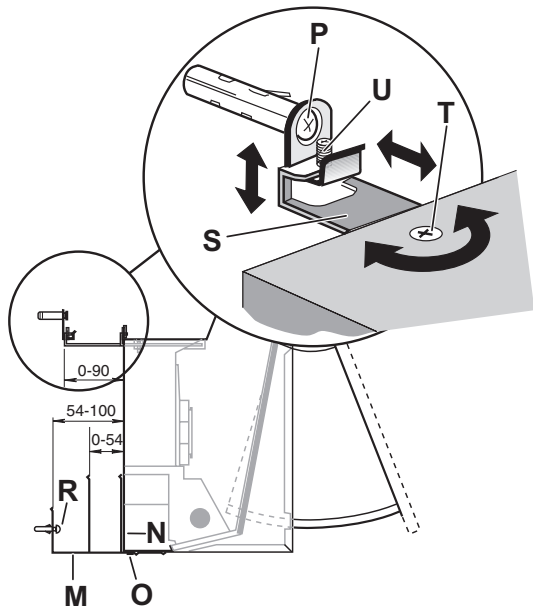

Fig. 11
- Fit the spacer **M** on the hood with two screws **O** and washers, ensure that there is not a gap between the back of the hood and the wall by adjusting the spacer **M** tightly to the wall, using the screws **O**. **Fig. 11.**
- Screw the two mountings hooks **P** into the top two wall plugs. **Fig. 11.**
- Fix the base spacer **M** to the wall with the two screws **R** 5x45 provided using either the long or the short arm, depending on the depth of the side cupboards. Do not tighten the screws fully. **Fig. 11**.
- Fix the hood to the wall by means of the two hooks **P** previously mounted, but first move the upper brackets **S** so that the front panel of the hood, once mounted, will be in line with the front edge of the cupboard doors. The two upper brackets **S**, located at the top rear edge of the hood may be slid backwards and forwards by loosening its fixing screws **T** adjacent to them on the upper hood surface. **Fig. 11**.
- Check that the hood is at the right height. Minor height adjustments may be made with the screws **U** embodied in the brackets. **Fig. 11**.
- Tighten the two wall fixing screws **R**, through the two access holes **N** provided on the inside of the hood then fix the lower sliding frame to the hood with two screws **O** and washers. **Fig. 11**.